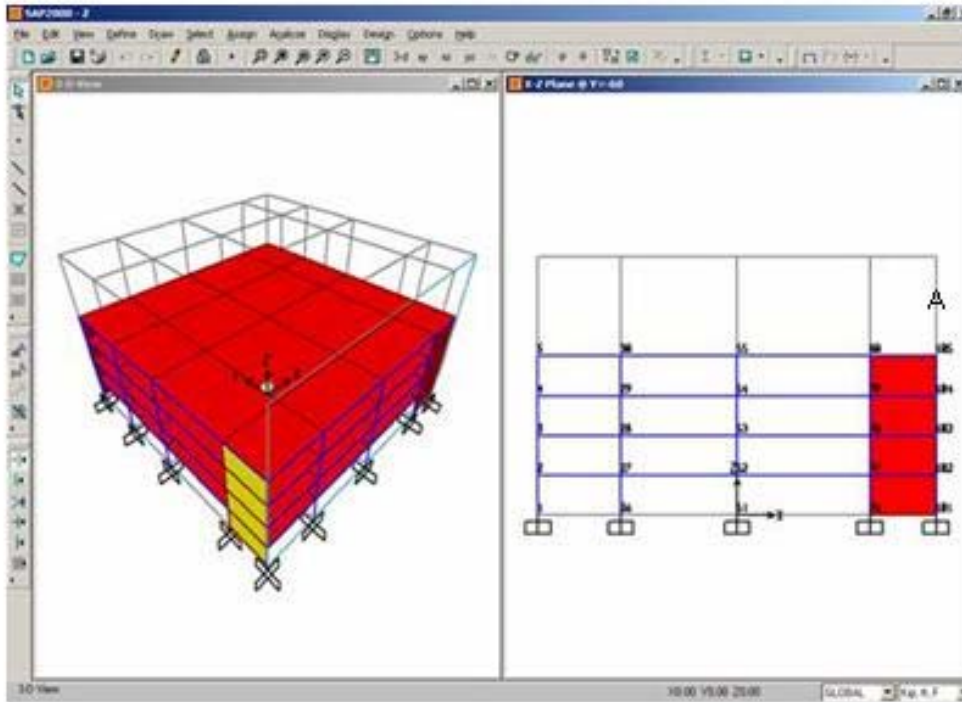

Figure Z-3: Screen After Step 46
- Click the **OK** button. The screen appears as shown in Figure Z-3.
48. Click on the grid line at the point labeled “A” in Figure Z-3 to enter the flagpole frame object.